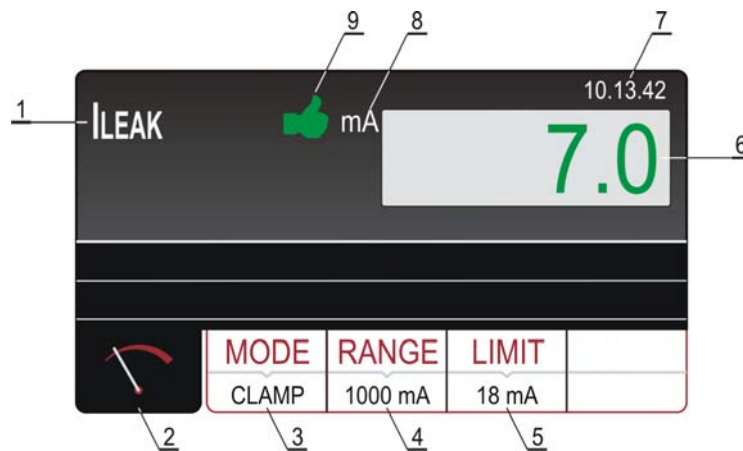

Figure 43: Display with I_{LEAK} test result in CLAMP mode
- 7) Start the measurement by pressing the **START/STOP** button. The measurement will start to run and will be stopped after pressing the **START/STOP** button again. Measurement result will be currently displayed in green colour if it is lower than or equal to set limit value or in red colour if it is higher than set limit value. Final result will be equipped with green  symbol and with beep-beep sound if it is OK or with red  symbol and with longer beep sound if it is not OK. See the display outlook with test result on the figure 43.